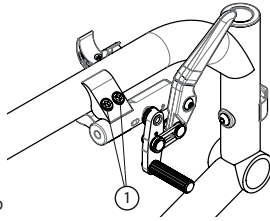

Fig. 37
- Loosen screws (1) (Fig. 37).
- Tighten screws (1) to a snug fit. Final tightening should be done manually.